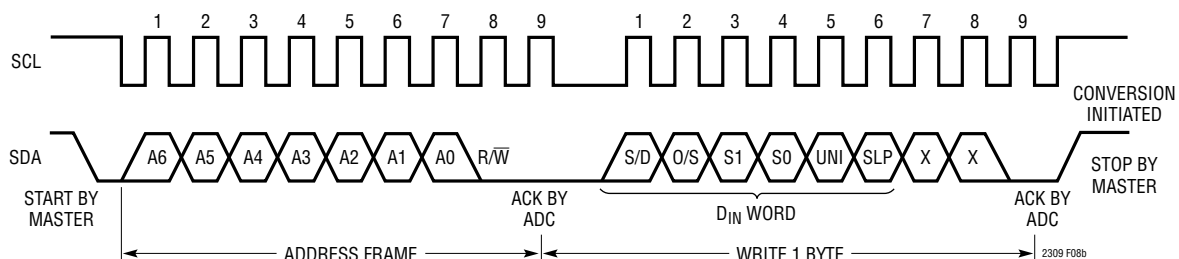

Figure 8b. Timing Diagram for Writing to the LTC2309
When the LTC2309 is addressed for a write operation, it acknowledges by pulling SDA LOW during the LOW period before the 9th cycle and acts as a receiver. The master/transmitter can then send 1 byte to program the device. The input byte consists of the 6-bit D_{IN} word followed by two bits that are ignored by the ADC and are considered don't cares (X) (see Figure 8b). The input bits are latched on the rising edge of SCL during the write operation.